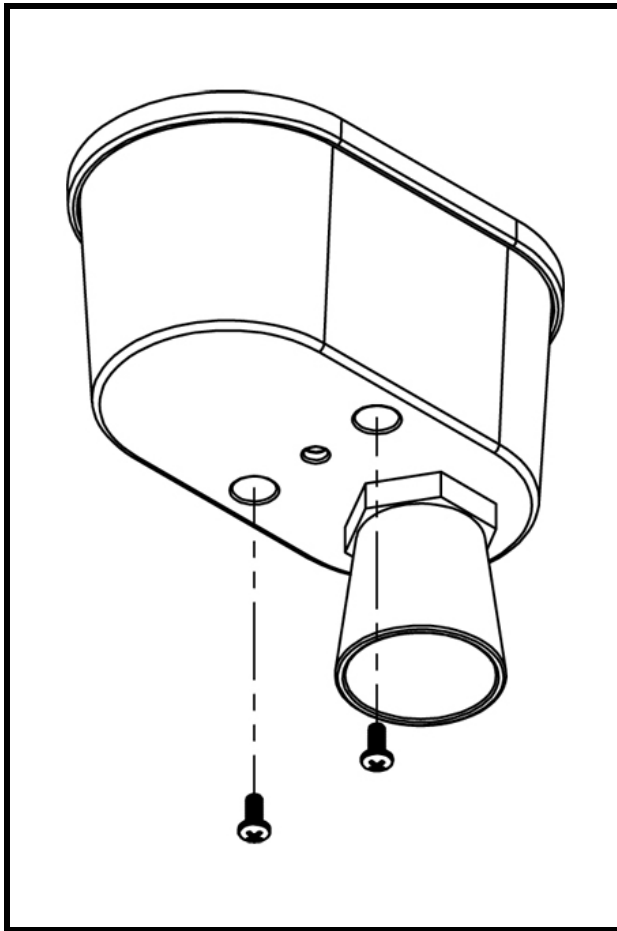

Figure 7 – Ultrasonic Sensor Cover and Fasteners
9. Apply Loctite 425 to the 2, #8-32 X 3/8 Phillip Pan Head Screws and install as shown in **Figure 7**. Torque to 4 in-lbs.